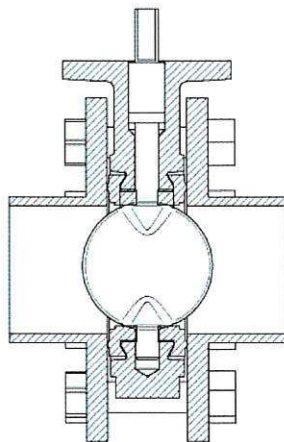

FIGURE 3. VALVE IN THE FULL OPEN POSITION
7. Slowly move the valve to the "full open" position (Figure 3) and back to the partially open position ensuring that the disc moves freely without any obstruction. If no obstruction is encountered, return the valve to the full open position and hand tighten all flange bolts using the bolt tightening sequence shown in Figure 4.